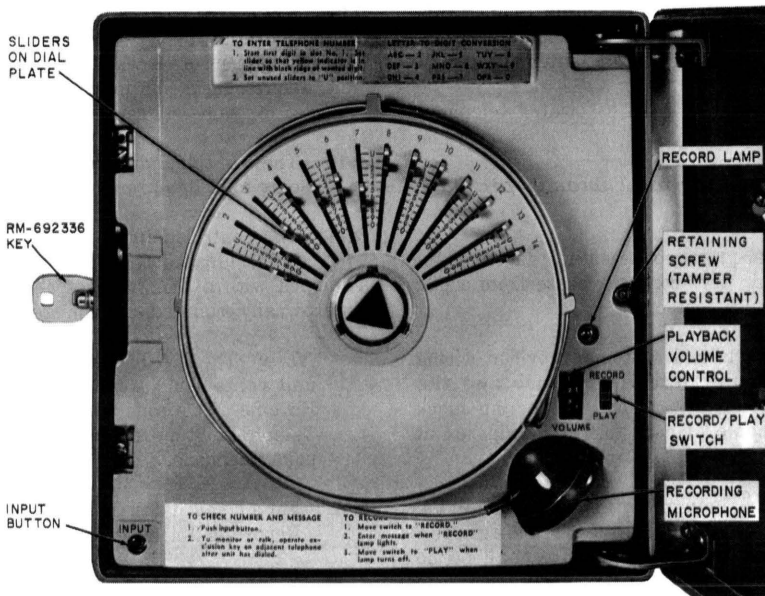
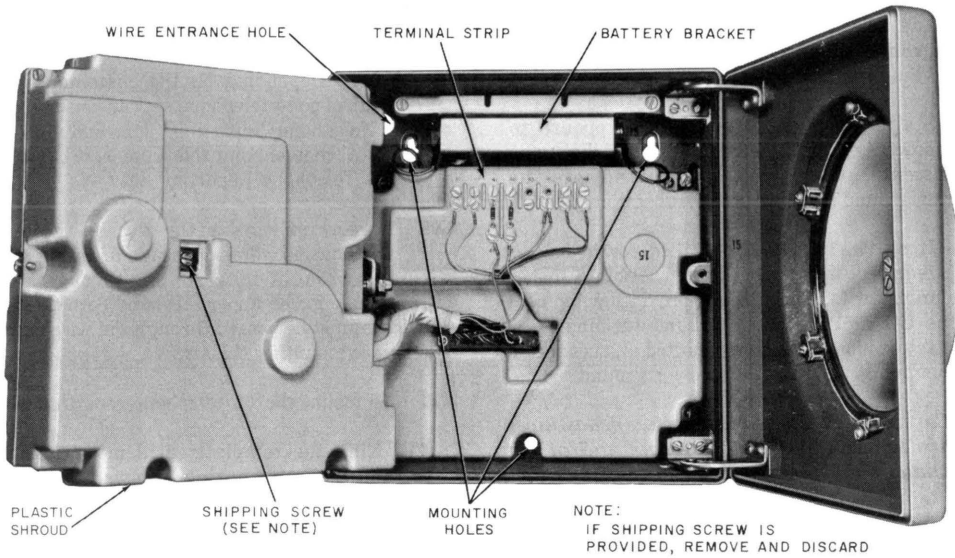

Fig. 2—1A Telephone Reporting Set, Controls
Fig. 3—Interior View of 1A Telephone Reporting Set
- Equipped with (tamper resistant) retaining screw, Fig. 2 (discourages customer from tampering with terminal behind control panel)
**2.06 *Dial Plate:*** Position sliders (Fig. 2), beginning with No. 1, to successive digits of predesignated telephone number. Unused sliders shall be placed in "U" position. To allow time for a second dial tone, if needed, two or three sliders after the access code should be positioned to "U". Example 9, U, U, U, 555-2368.
**2.07 *RECORD/PLAY Switch (Fig. 2):*** In "RECORD" position previous message is erased and a new message (up to 11.8 seconds long) may be recorded by speaking into the "RECORDING MICROPHONE" during the time the "RECORD LAMP" is on. In "PLAY" position recorded message is transmitted to the telephone line when the 1A Telephone Reporting Set is activated.
**2.08 *VOLUME Control (Fig. 2):*** Adjusts the level of playback to manually compensate for local loop conditions.
**2.09 *INPUT Button (Fig. 2):*** For locally testing operation of 1A Telephone Reporting Set. Depressing the button while set is idle will activate unit. Depressing the button while set is transmitting recorded message will cause unit to reset.
**3.09** Three breakouts in the web on the rear of the housing allows passage of inside wiring. Wiring is brought into the set through a wire entrance hole in the upper left-hand corner (Fig. 3). All wiring must be passed through the wire entrance hole before mounting the set.
- (1) Using the template, drill mounting holes and insert mounting screws. Use a 83A backboard if the mounting surface is uneven.
- (2) Unlock set, loosen dial plate retaining screw (Fig. 2), using a KS-19192L1 tool, KS-8187 tool, or an appropriate wrench from the C Key Kit, and swing the assembly aside. Mounting holes are then accessible (Fig. 3).
- (3) Mount the set, but do not tighten the mounting screws since all wiring must be brought in through the entrance hole in the upper left-hand corner (Fig. 3) or through breakout webs in the rear of the housing.
- (4) A terminal strip is provided for the termination of all wiring on the inside rear panel of the unit (Fig. 3).
**3.13** If the shipping screw (Fig. 3) is provided, remove and discard. The telephone reporting
**3.14** To assure that all internal switches are in their proper operative positions, perform the following (Fig. 2):